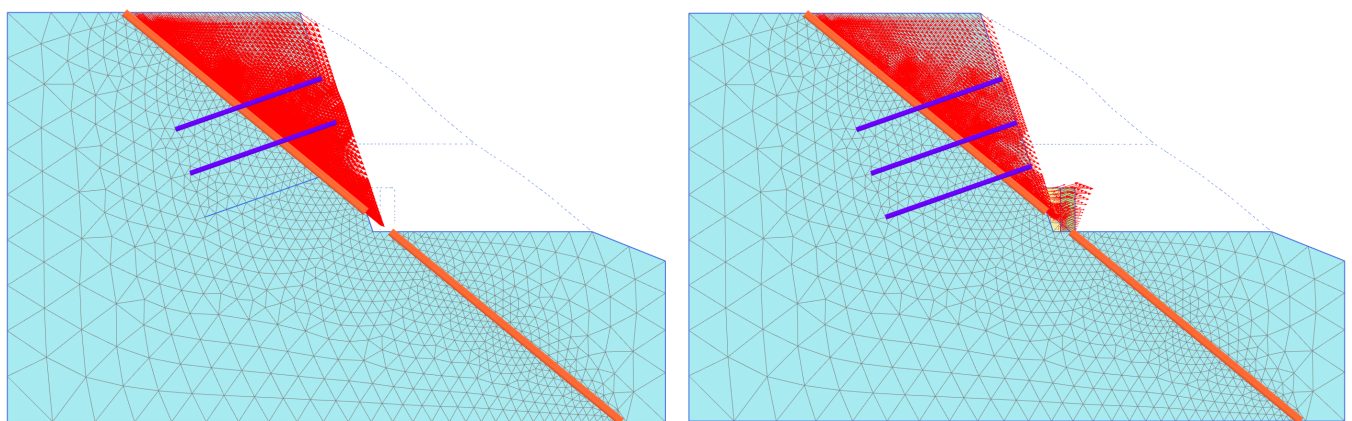

Figure 4-20: Displacement increments after the second excavation stage (first) and after the backfilling (second)
- 4 From the top toolbar, click the **Arrows** button , and the incremental displacement movement vectors will be displayed. The length of the arrow indicates the magnitude of the specific incremental displacement, while the arrow direction indicates the displacement increment direction, as shown in Figure 4-20 \(p. 89\).
Figure 4-19 \(p. 89\) and Figure 4-20 \(p. 89\) shows the contour plots and arrows of the incremental displacement from the safety calculations for both Phases 3 and 6. The magnitude of the displacement increments is not relevant, but it indicates whether or not a failure mechanism has developed. In Figure 4-19 \(p. 89\), the rock slope tends to